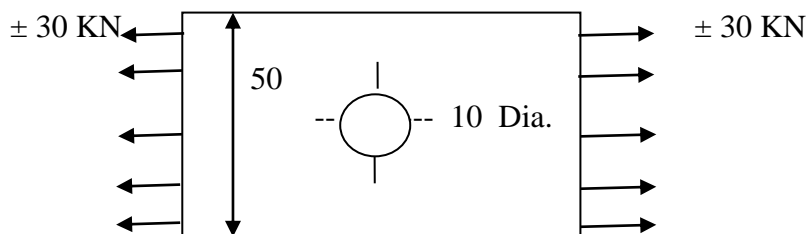

Figure 2. (All dimensions are in mm)
- B) A plate made of steel 20C8 ( $S_{ut} = 400 \text{ N/mm}^2$ ) in hot rolled and normalized condition is as shown in the Figure 2. It is subjected to completely reversed axial load of  $30 \text{ kN}$ . The notch sensitivity factor can be taken as 0.8 and the expected reliability is 0.85. The factor of safety is 2. Determine the plate thickness for infinite life. Use the below data if required